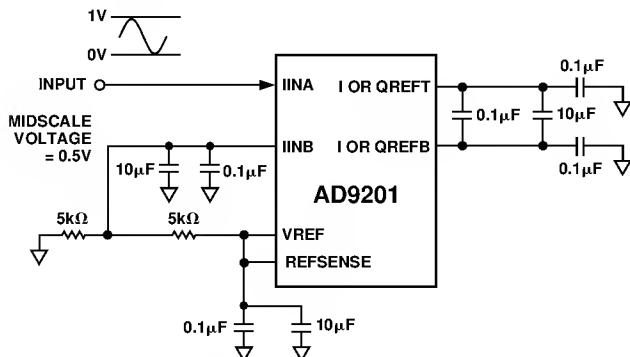

Figure 17. Example Configuration for 0 V-1 V Single-Ended Input Signal
**EXAMPLE:** For a single-ended input range from 0 V to 1 V applied to IIN A, we would configure the converter for a 1 V reference (See Figure 17) and apply 0.5 V to IIN B.